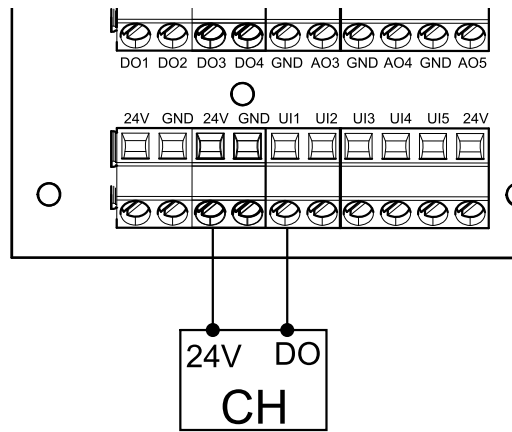

Fig. 18 Connection of the cooker hood
1. Connect control signal wires from the cooker hood to any free universal input and 24 V on the external connection board (figure 18). For more information about connection board see 8.2 *External connections (Connection board)*, page 50.